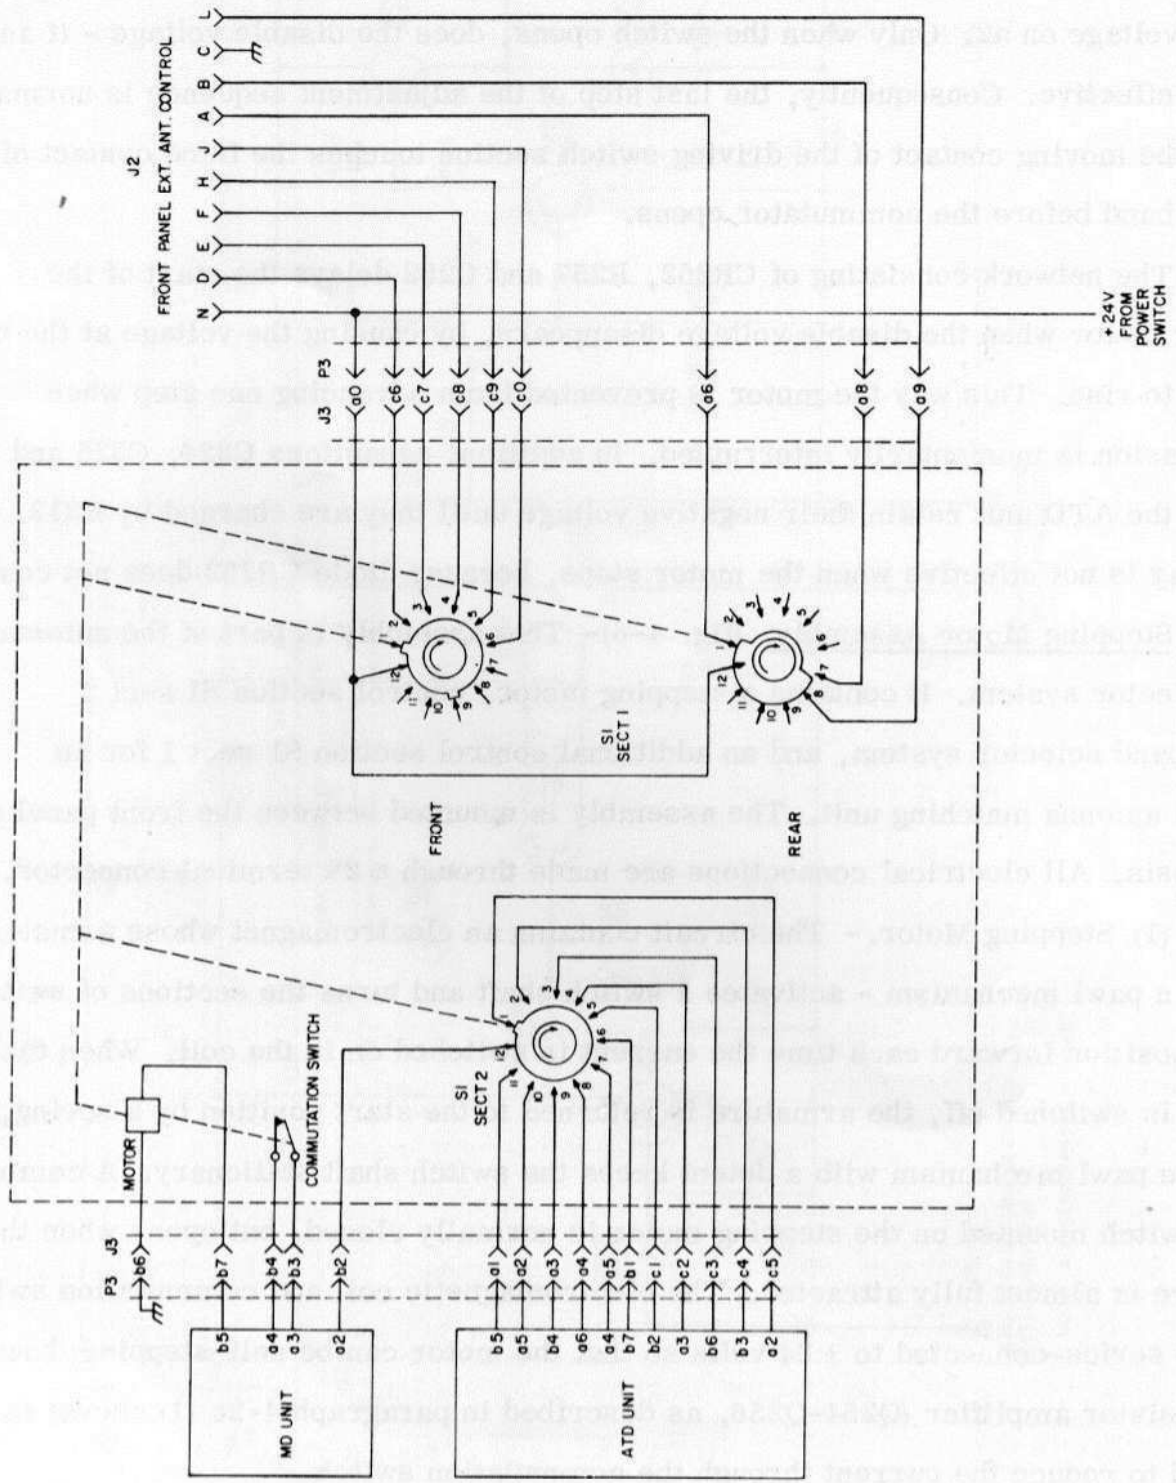

Figure 4-6. Stepping Motor Assembly A750, Schematic Diagram
d. Stepping Motor Assembly. (fig. 4-6)- This assembly is part of the automatic band selector system. It contains a stepping motor, control section S1 sect 2 for the band selector system, and an additional control section S1 sect 1 for an external antenna matching unit. The assembly is mounted between the front panel and the chassis. All electrical connections are made through a 28 terminal connector.
(1) Stepping Motor. - The circuit contains an electromagnet whose armature - through a pawl mechanism - activates a switch shaft and turns the sections of switch S1 one position forward each time the current is switched on in the coil. When the current is switched off, the armature is returned to the start position by a spring; while the pawl mechanism with a detent keeps the switch shaft stationary. A commutation switch mounted on the stepping motor is normally closed, but opens when the armature is almost fully attracted. The electromagnetic coil and commutation switch must be series-connected to + 24 volts so that the motor can be self-stepping; however, the transistor amplifier (Q254-Q256, as described in paragraph 4-2c (1) above) is inserted to reduce the current through the commutation switch.